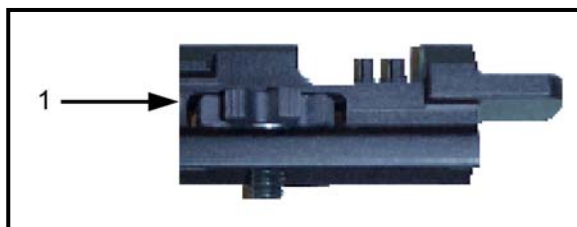

Figure 2-19. Insight rail grabber MILES training extender.
b. **MILES Training Extender for the Insight Rail Grabber** (Figure 2-19). The purpose of the training extender is to elevate the accessory above the MILES laser during force-on-force training. The extender is installed by using the thumbscrew (1) to hand tighten the extender into the mounting hole closest to the muzzle on the Insight rail grabber. Once the extender is installed, the accessory is installed on top of the extender and tightened. The training extender is only used when the Insight rail grabber is top mounted.